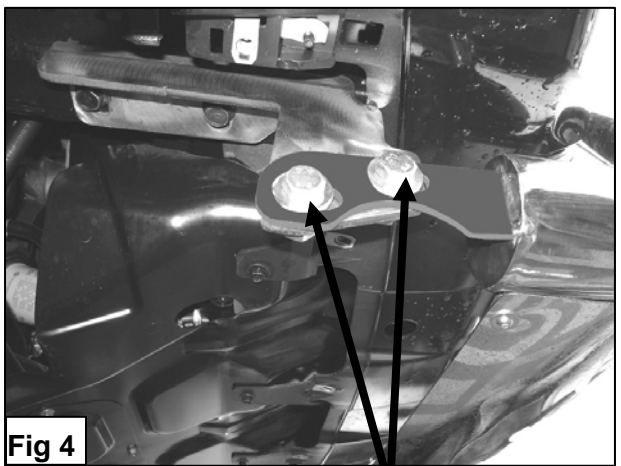

Fig 4
- With help position Bull Bar on the outer side of Mounting Brackets. Attach Bull Bar to Mounting Brackets using the included (4) 12-1.75mm x 30mm Hex Head Bolts, (4) 12mm Lock Washers, (4) 12mm Hex Nuts, and (8) 12mm Flat Washers (**Figure 4**).